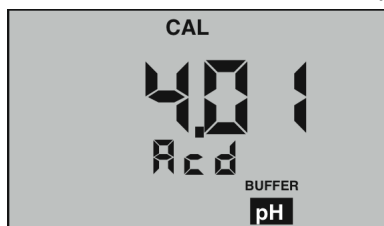

Figure 7
- At this point the “**CAL**”, “**BUFFER**” and “**Acd**” or “**bAS**” annunciators will be displayed (see Figures 7 and 8).